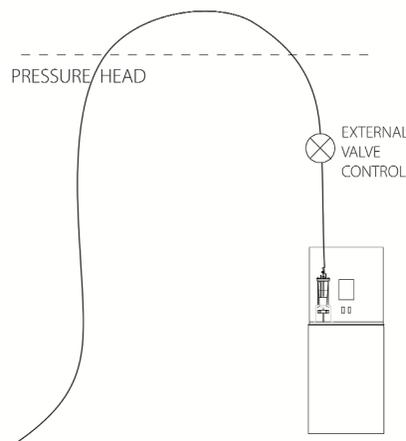

FIGURE 1-4. Vertical Loop for Pressurized Source
2. **Looping the intake tube.** For small amounts of pressure, looping the intake tube up to a height that the water pressure cannot push above is a simple way of getting around the issue. The maximum height would be the maximum vertical draw, 27.5 feet. NOTE: we recommend using a valve with external valve control in this kind of situation, to be on the same side. See FIGURE 1-4.